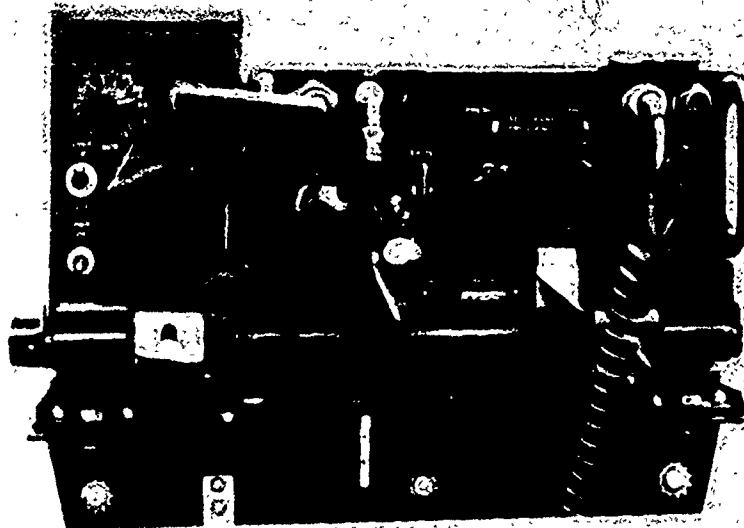

Figure 3-12. RADIO SET AN/VRC-53.
a. The AN/GRC-125 is commonly called the "On-Off vehicle set." This set incorporates the components, operational facilities and characteristics of the Portable Radio Set AN/PRC-25 Figure 3-10, and the Vehicular Radio Set AN/VRC-53 Figure 3-12 and can be operated as either a portable or vehicular radio. It weighs approximately 84 pounds, and has two operating ranges: 5-8 kms in the dismounted role and 10-12 kms in the mounted role.